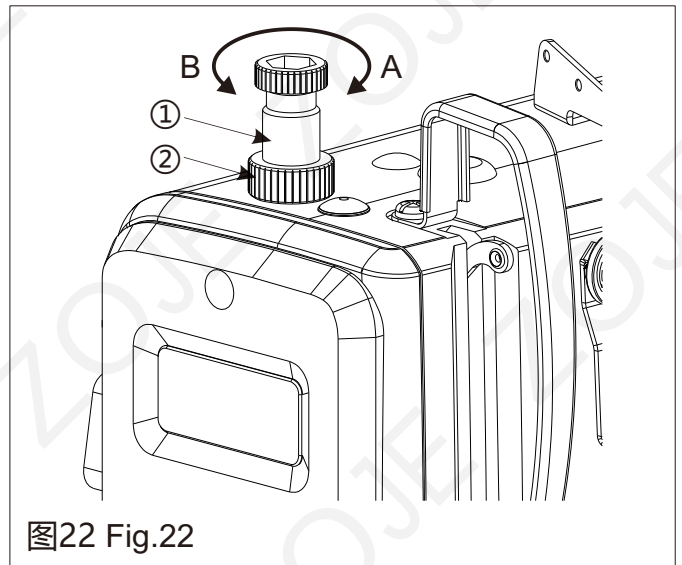

图22 Fig.22
- 1) 上图标样(见图22)可根据不同的缝纫工序需求进行增或减的微调整, 但应注意不要增加或减少过多。油量过少时会引起旋梭发热, 油量过多时会污染缝料。
- 1) The guide sample shown in the right-hand figure(see Fig. 22) may be finely adjusted (increased or reduced) as per different sewing processes; however, excessive increase or reduction shall be avoided. Too little oil mass may lead to rotating hook heating, and over much oil mass may lead to contamination of the sewing materials.
18 压脚压力的调节 (图22) Adjusting the Presser Foot Pressure(Fig. 22)